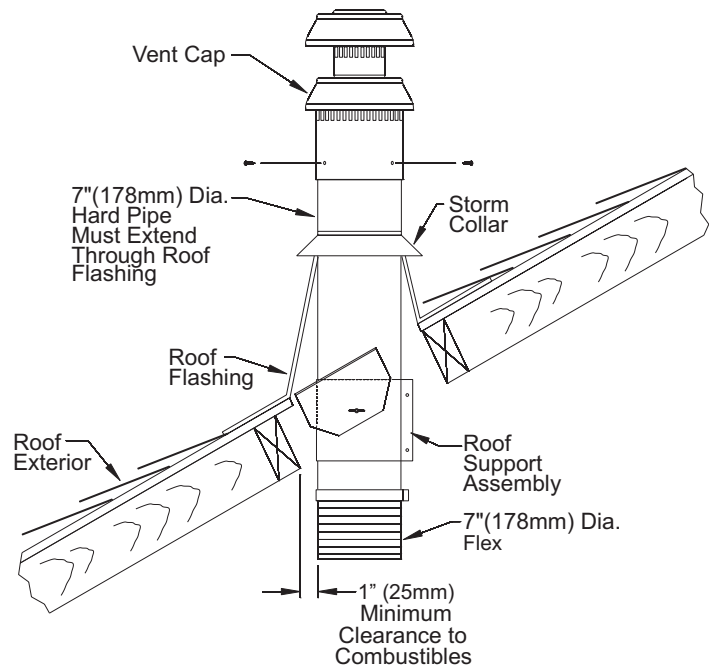

Figure 27
19. Once the lower connections are made and the flex pipe is secured with support bands as required (3 feet minimum between supports) then the roof flashing can be installed. **See Figure 27.**
22. To complete the vent installation, install the vent termination cap to the top of the hard vent pipe assembly. Mate up the flue and outer telescopes with the hard pipe assembly, then secure by installing a minimum of two (2) sheet metal screws into the overlapped flanges of the cap and pipe.